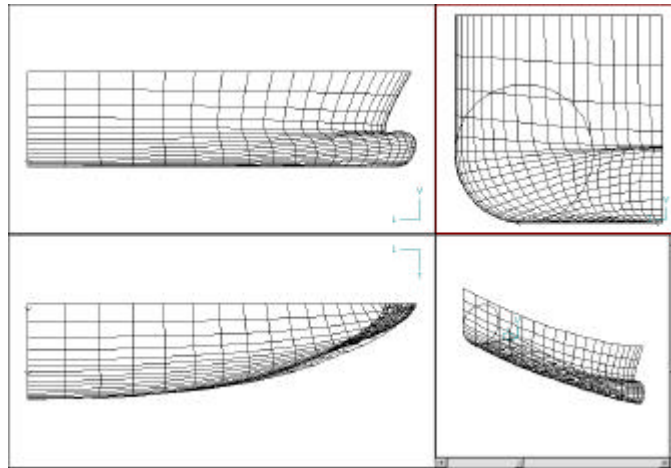

Figure 2-13: Creating bow rounding
5. Click the **Surface Mesh** button to see the result. (See Figure 2-13.)